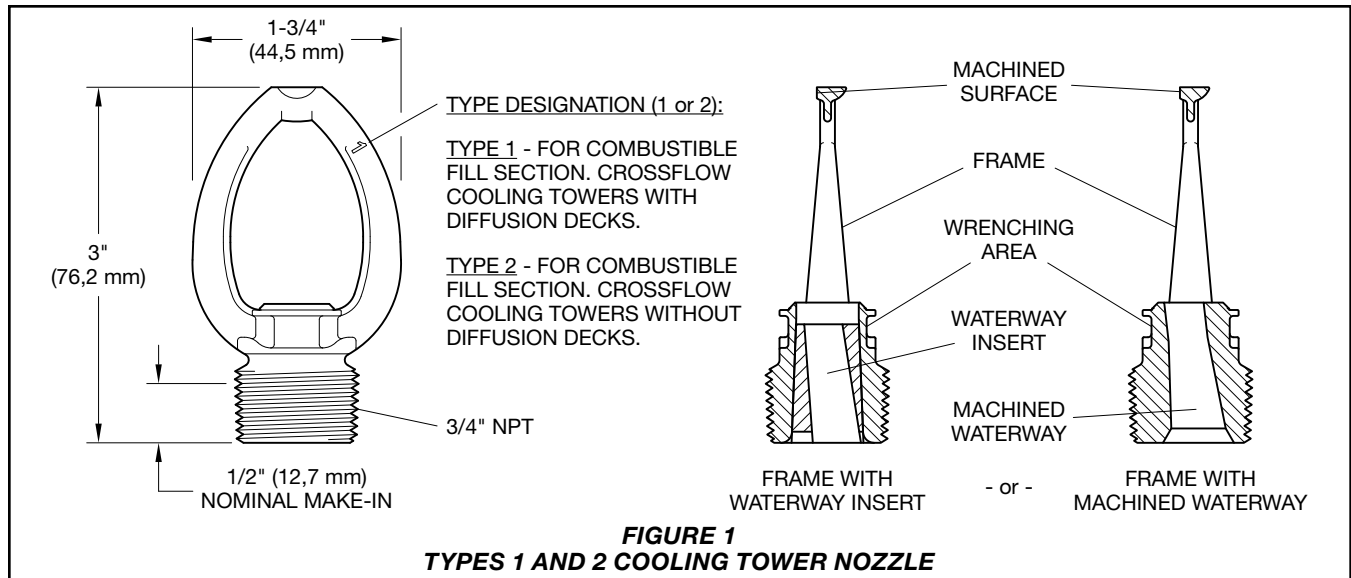

FIGURE 1
Step 2. Tighten the nozzle into the nozzle fitting using only the W-Type 11 Sprinkler Wrench, see Figure 3. With reference to Figure 1, the W-Type 11 Sprinkler Wrench is to be applied to the wrenching area.